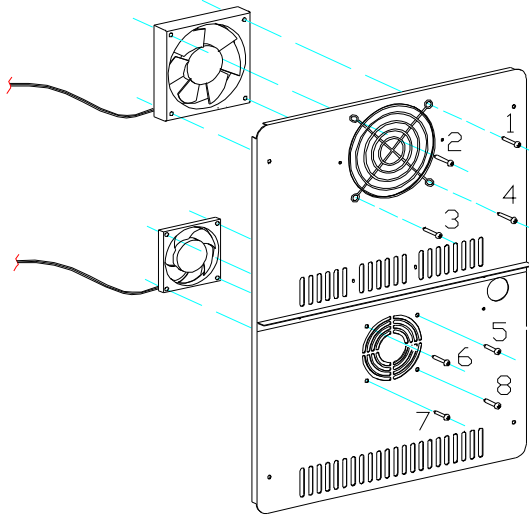
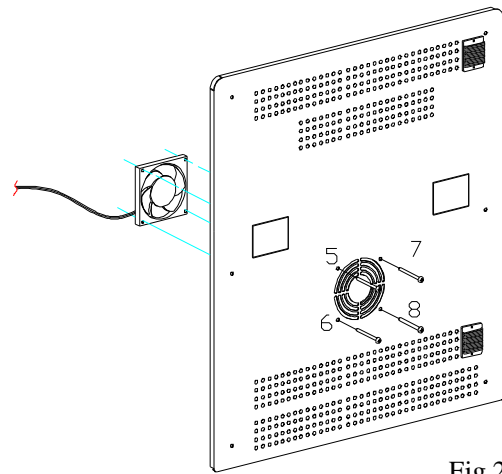

Fig.22
Fig.22.1
If the temperature of refrigeration compartment is lower than set temperature but heater fan does not function, after verifying no bad connections replace the fan unit .(Fig.22& Fig.22.1)
4). Remove screws (1,2,3,4), then replace the evaporator fan. See (Fig.22)
Remove screws (5, 6, 7, 8), then replace the heater fan. See (Fig.22& Fig.22.1)
- 2 >.If the fan is damed seriously or brocken, replace it with the new fan(Fig.22& Fig.22.1)
The unstable temperature is caused by the evaporator fans cease, and it can be check by the below method: When the compressor is running, the light “Run” is on, the fan should be running, if the fan stop, check the whether is any fault in the fan or fan connection. If the fan is broken, replace it with the fan of the same model. (Fig.22)